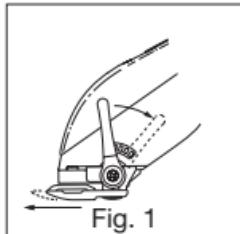

Fig. 1
- The taper lever is positioned as shown in figure 1. You can hold the clipper in your hand and adjust the lever at the same time while you are clipping.
- There are 5 different taper positions to choose from. To increase cutting length, slowly push lever down. To cut closer push the lever up (figure. 1).